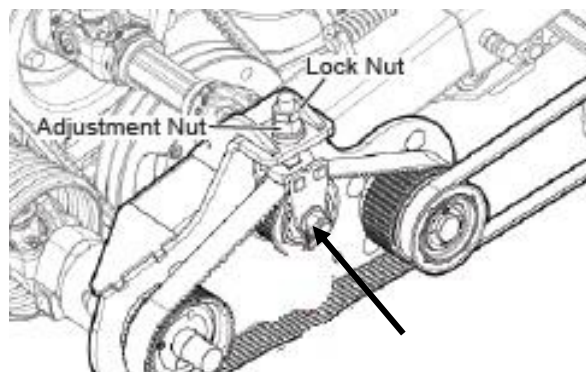

Figure 31
4. Remove the drive belt from the two drive pulleys by loosening the idler jam nut and tension nut. Figure 31
6. Once the idler assembly is removed remove the bolt retaining the idler to the idler bracket. Figure 31